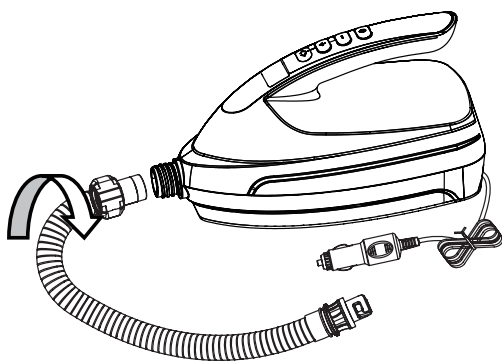

Fig.1
- Connect the end of the hose with the flexible conduit adapter to the air pump inflation inlet (13), and twist clockwise to tighten it, as in Figure 1.